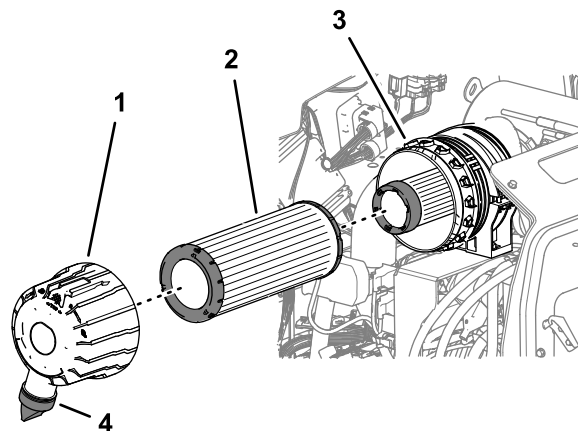

Figure 50
3. Remove the primary air filter (Figure 50).